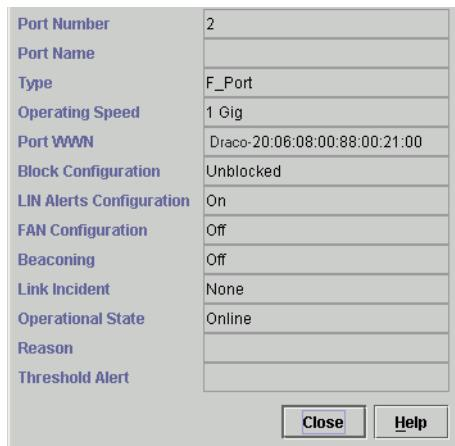

Figure 34: Port Properties dialog box
8. Double-click the port connector used to make this ISL connection to open the Port Properties dialog box (Figure 34).